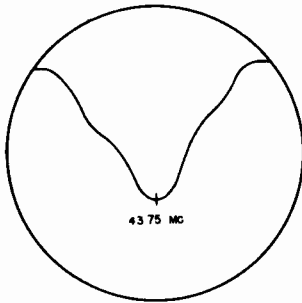

Fig. 9 3rd IF Response
6. Alternately adjust the top and bottom slugs of the 3rd IF transformer until a pattern somewhat similar to Fig. 9 is obtained. It will be noted that the top slug affects the high frequency side and the bottom slug the low frequency side of the response curve. If the correct response curve cannot be obtained, check the position of the slugs as in Step 4.